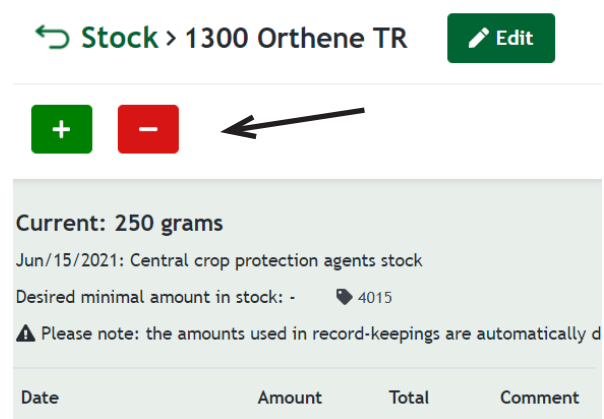

Figure 4
7. Once you have added the product, the screen shown in figure 4 will open. Here you can add and deduct quantities by clicking on the + and - buttons. Only deduct quantities when you dispose of a product or fertiliser or return it to the supplier. When you enter a product in the usage section, it will be automatically deducted from stock.